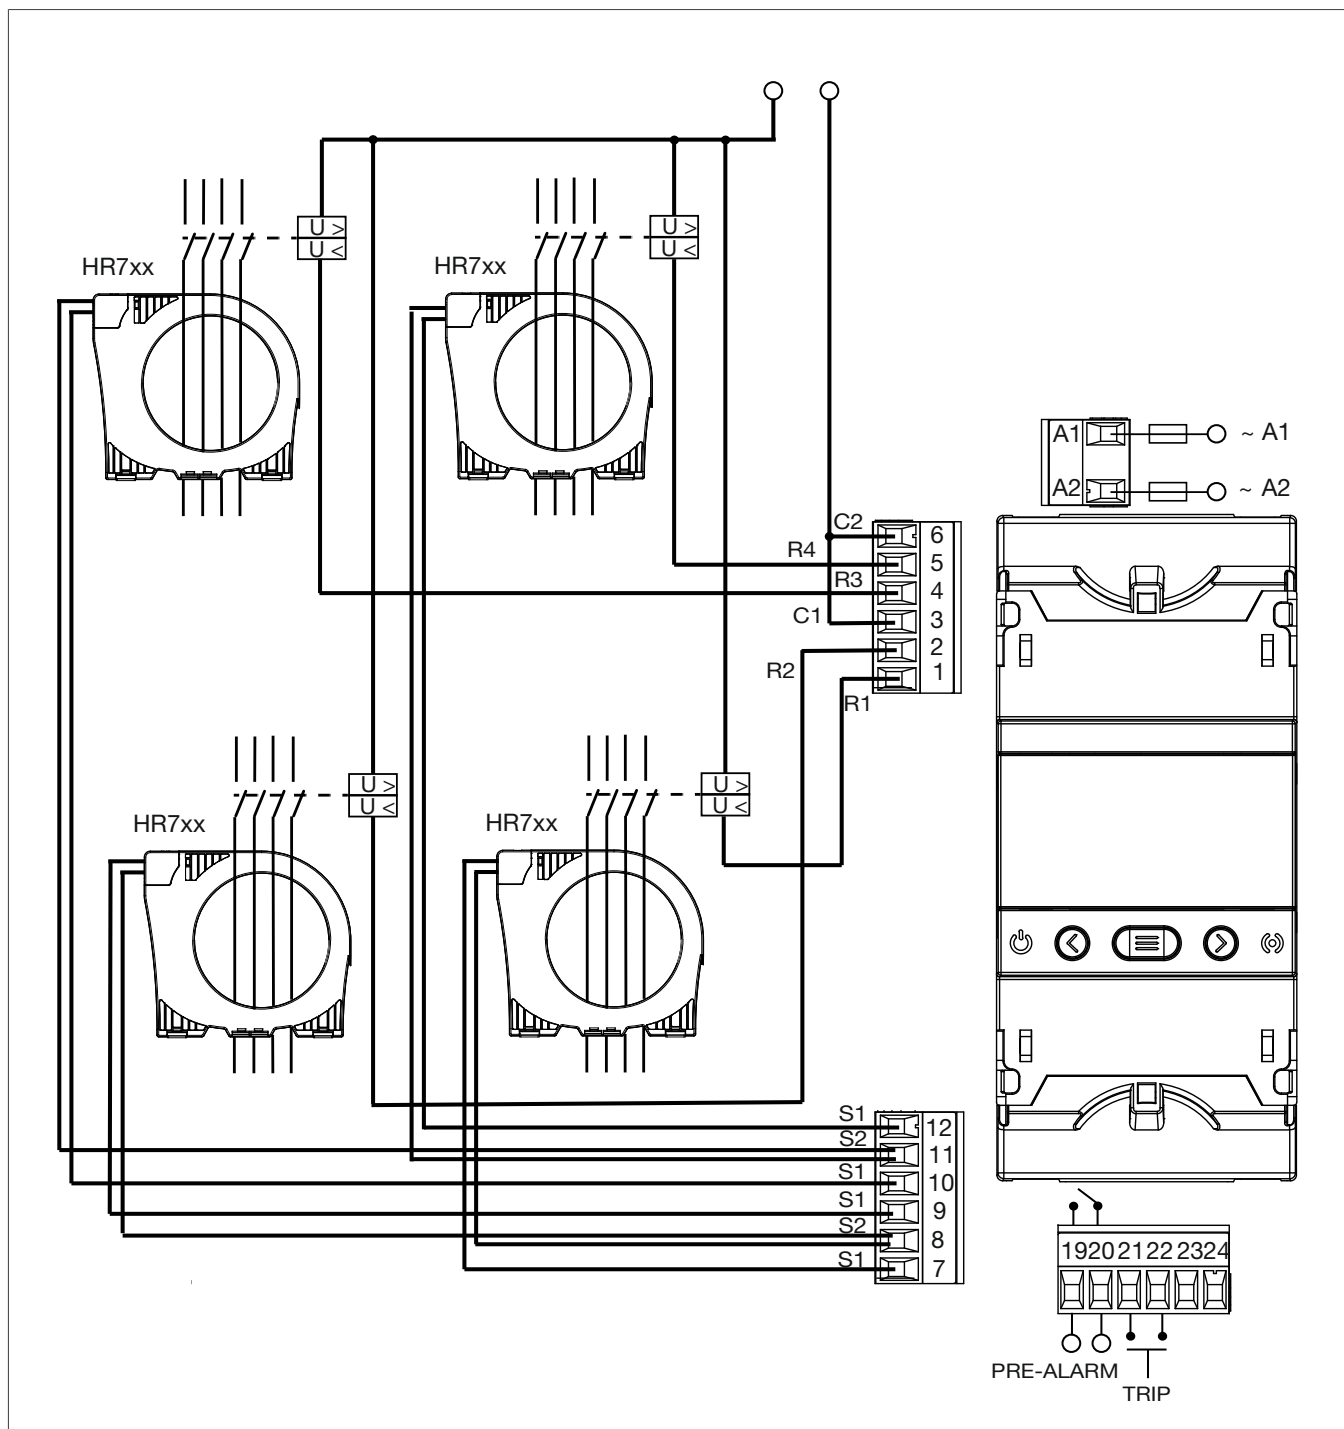

Fig. 4: Connecting the device
- 3 Connect and wire the device (Fig. 4: Connecting the device).